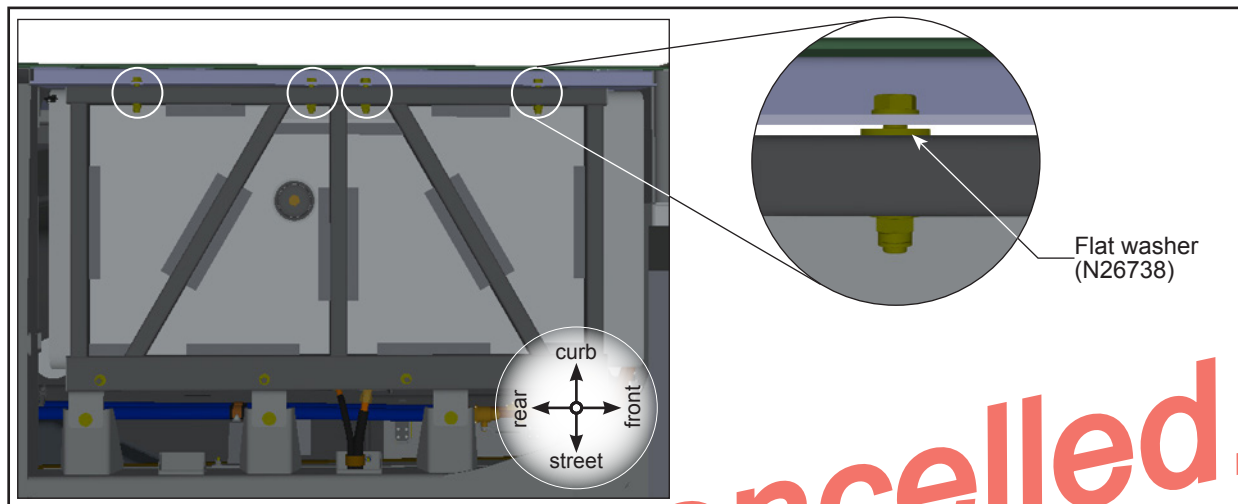

Figure 2 - Flat Washer (N26738) Installation
- 1.3. One at a time, remove the four bolts and insert a flat washer (N26738) between the fuel tank frame and the supporting structure. See Figure 2.